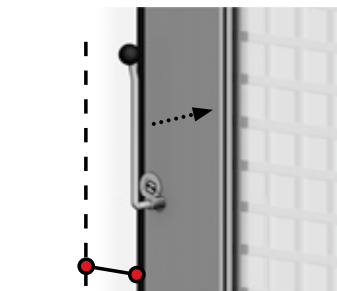

Fig. 9
- c. Insert lever handle onto the lever receiver WITH THE LEVER HANDLE END POINTING UPWARDS (Fig. 9). Note that the lever handle and receiver are “keyed” so that the system will only work if the handle end is pointing up.
- c. Insert lever handle onto the lever receiver WITH THE LEVER HANDLE END POINTING UPWARDS. (Fig. 9) Note that the lever handle and receiver are “keyed” so that the system will only work if the handle end is pointing upwards.
2. If partitions has a Lever Closure, retract the Lever Closure expanding panel by inserting lever handle into the lever receiver WITH THE LEVER HANDLE END POINTING DOWNWARDS. (Fig. 9) Rotate the lever handle upwards until it is pointing up towards the ceiling.